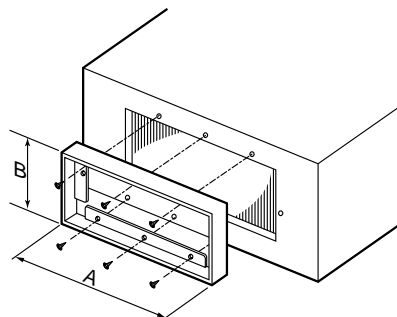

Fig. 9-4-8
- 1) Using 6 screws, mount the flange to the supply air port of the indoor unit. (Fig. 9-4-8)